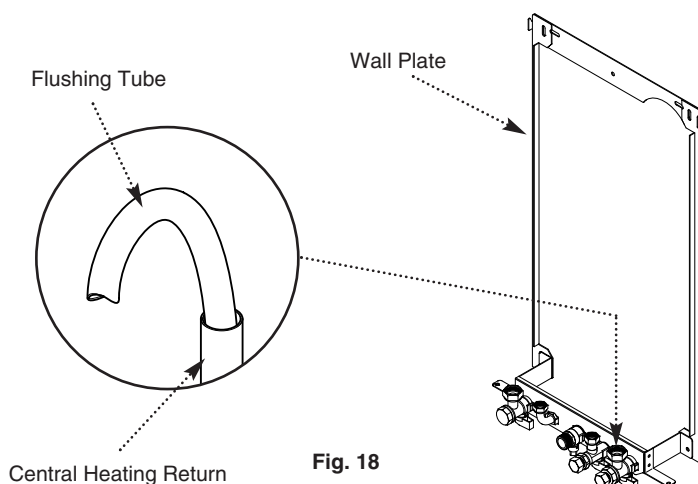

Fig. 18
1. Connect a tube to the central heating flow or return pipe (Fig. 18).